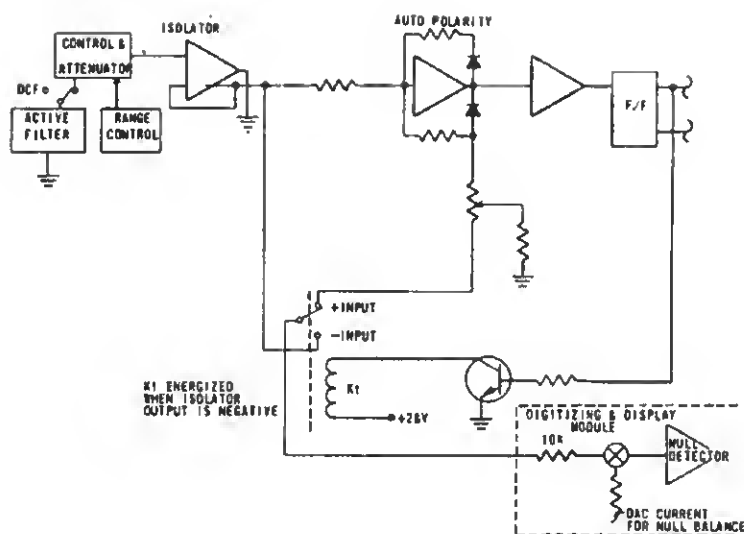

Figure 4.3. Block Diagram - DC and Ratio Modes
4.35. The circuit configuration used for the measurement of DC volts is shown in Figure 4.3. An identical arrangement is used when the instrument is in the ratio-measuring mode. The difference in these two types of measurements lies in the counterbalancing reference used in the Digitizing and Display section. DC volts are measured against a fixed internal reference; ratios are measured against an external reference.